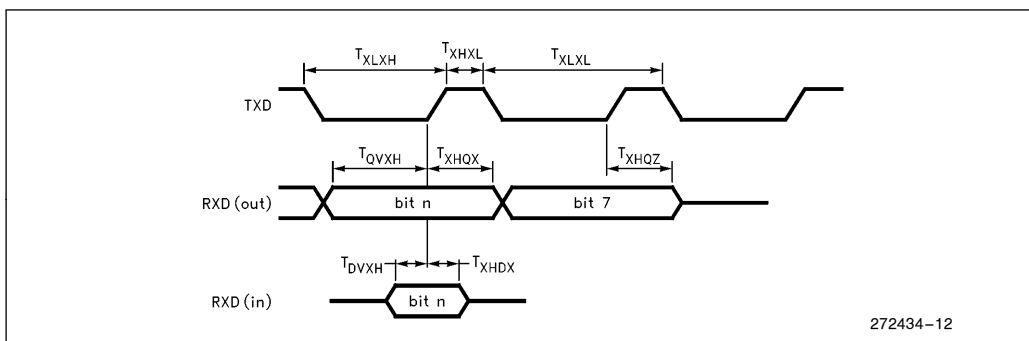

Figure 13. Serial Port Mode 0 Waveform
1. See Figure 13 for Waveforms.